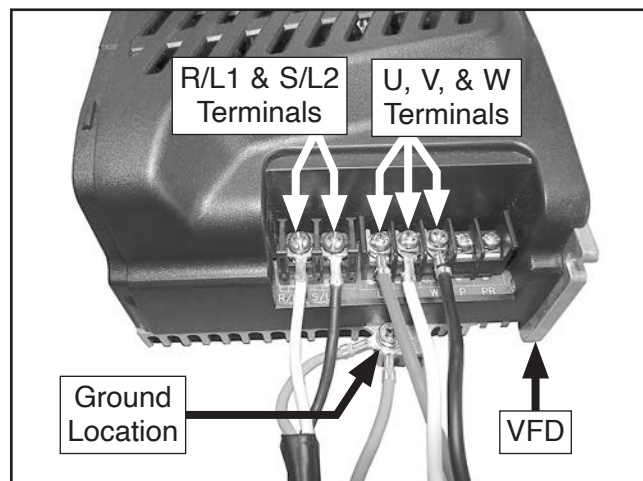

Figure 6. Location of upper VFD terminals.
2. Route opposite end of 30" VFD cord down through machine interior to VFD cover plate opening and connect black and white wires to R/L1 and S/L2 VFD terminals (see **Figure 6**).
3. Connect red, white, and black wires on motor cord to U, V, and W terminals on VFD shown in **Figure 6**.
4. Connect green ground wires from motor cord and VFD cord to grounding terminal on VFD (see **Figure 6**).